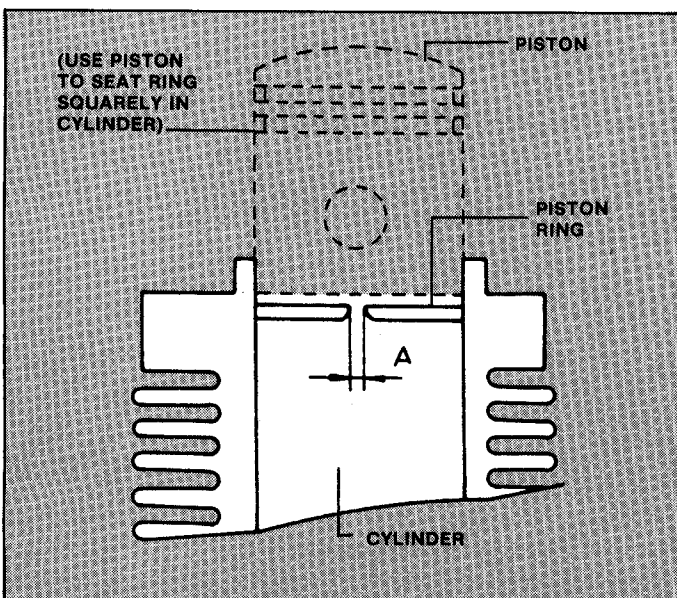

FIGURE 2.19
1. Using a piston for seating purposes, install a piston ring inside cylinder as shown in Figure 2.19.